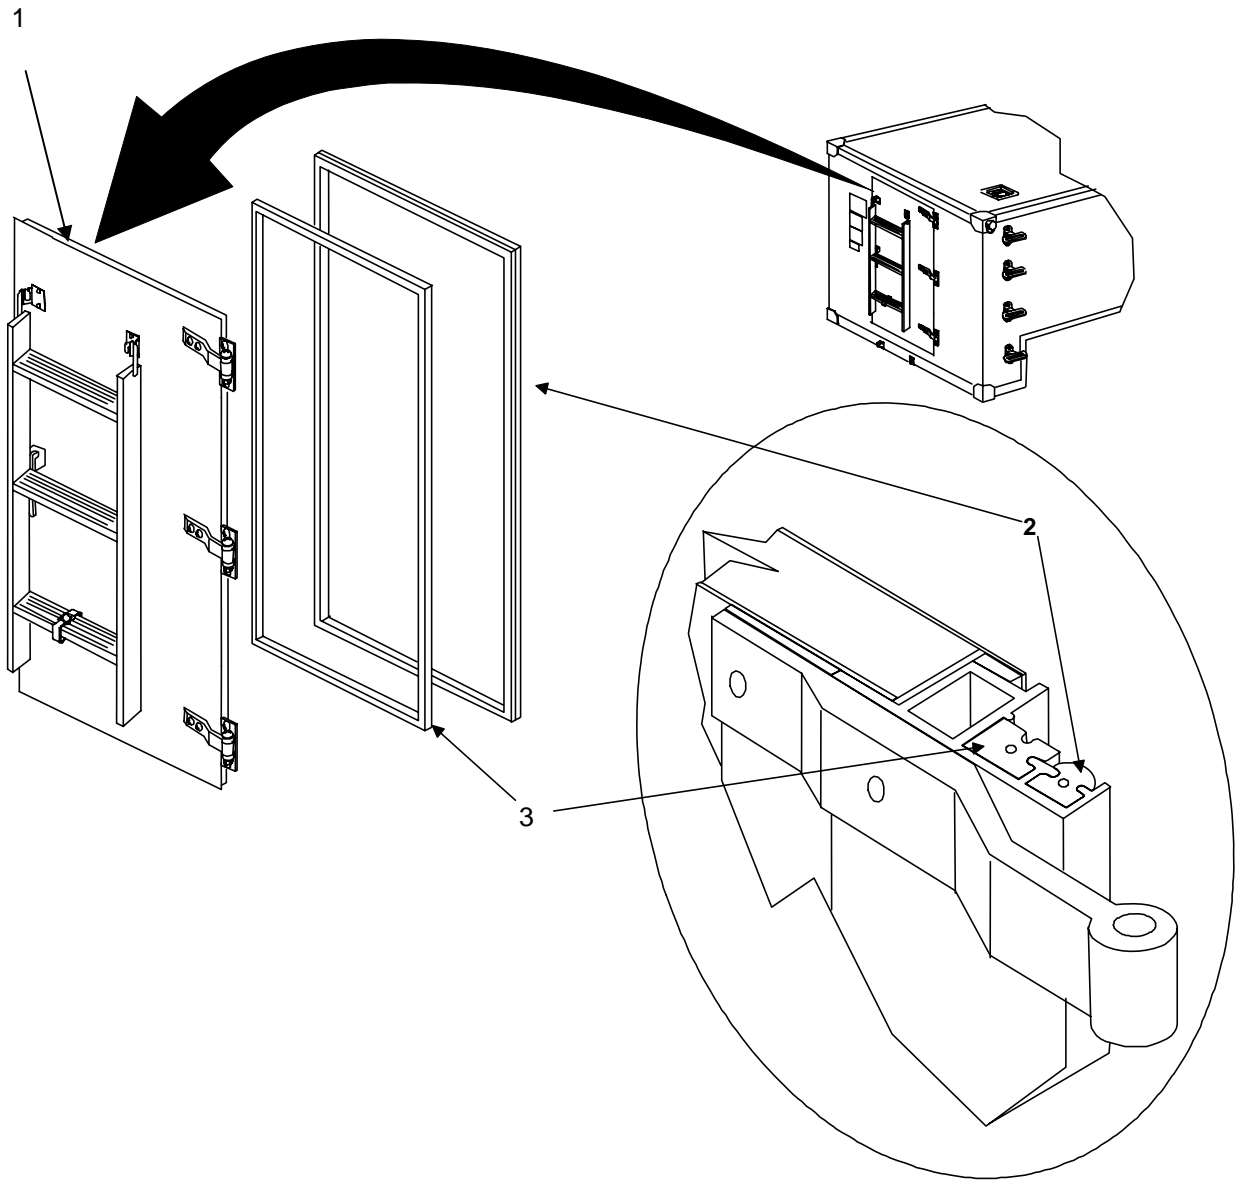

Figure 1. Door Assembly RFI/Weather Gaskets.
1. Open door (figure 1, item 1) and pull out RFI (figure 1, item 3) or silicone (figure 1, item 2) gasket.
1. Locate spot for RFI gasket (figure 1, item 3) on shelter.
1. Locate spot for silicone gasket (figure 1, item 2) on shelter.